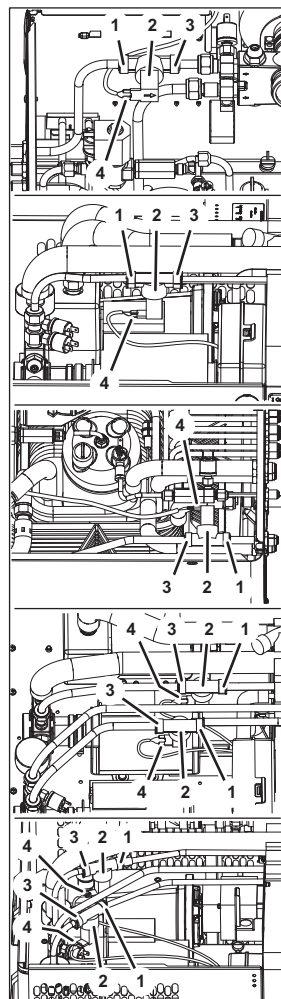

Figure 112
1. Disconnect the plugs (Figure 112/4) of the water inlet valve (Figure 112/2).
2. Disconnect the water inlet valve (Figure 112/2) from the push-in fittings (Figure 112/1 and 3).
3. Attach the new water inlet valve (Figure 112/2) to the push-in fittings (Figure 112/1 and 3).
4. Connect the plugs (Figure 112/4) of the water inlet valve (Figure 112/2).